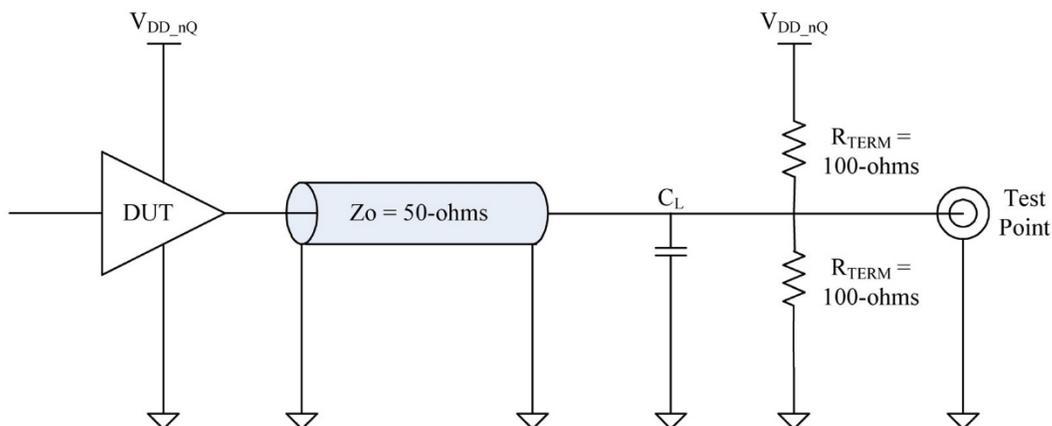

Figure 8b. Thevenin Terminated LVCMOS/LVTTL Test Circuit
1. All outputs are equally loaded. See figure 8B.
1. When measuring the dynamic supply current, all outputs are disconnected from the equivalent test load defined in figure 8B.